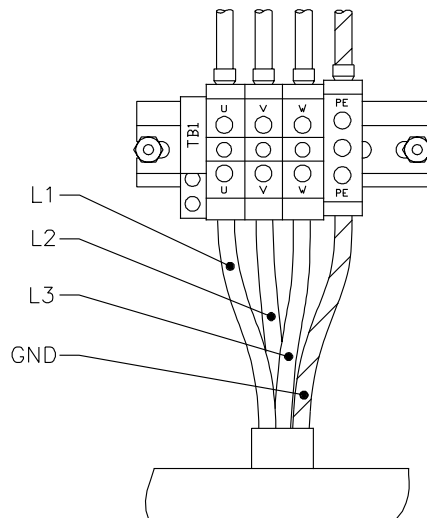

Figure d-3 Power Cable Connections to TB1
4. Connect leads L1 to U, L2 to V, and L3 to W terminals of TB1 (see Figure d-3). Ensure that all connections are tight to avoid excessive heating.
5. Connect the ground lead to the terminal marked PE at TB1 (see Figure d-3).